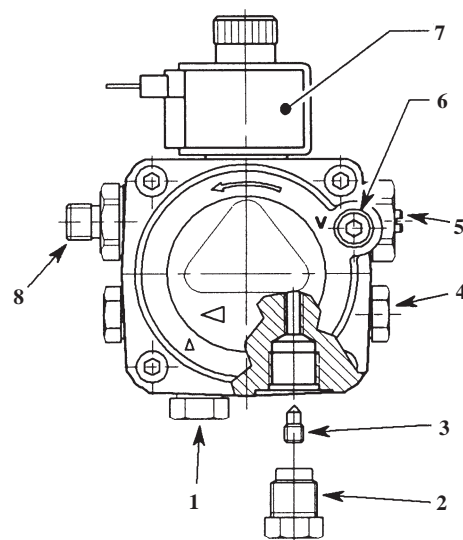

Fig. 6 - RDB pump
3.3.6 Two pipe oil supplies - (See Fig. 6)
- 1 The fuel pump is supplied for use with a single pipe fuel supply system. For use on a two pipe system, it is necessary to fit the By-pass screw (see Fig. 6) into the tapping in the return port.